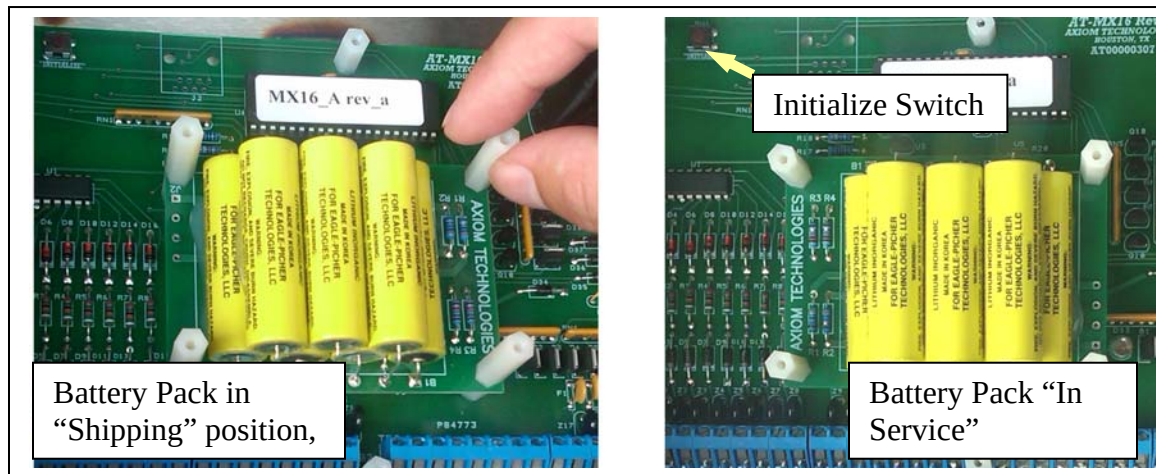

Fig. 2 Battery Pack installation
1. Remove the four nylon nuts holding the battery module, rotate it 180° and carefully re-install as shown below (see Fig. 2).